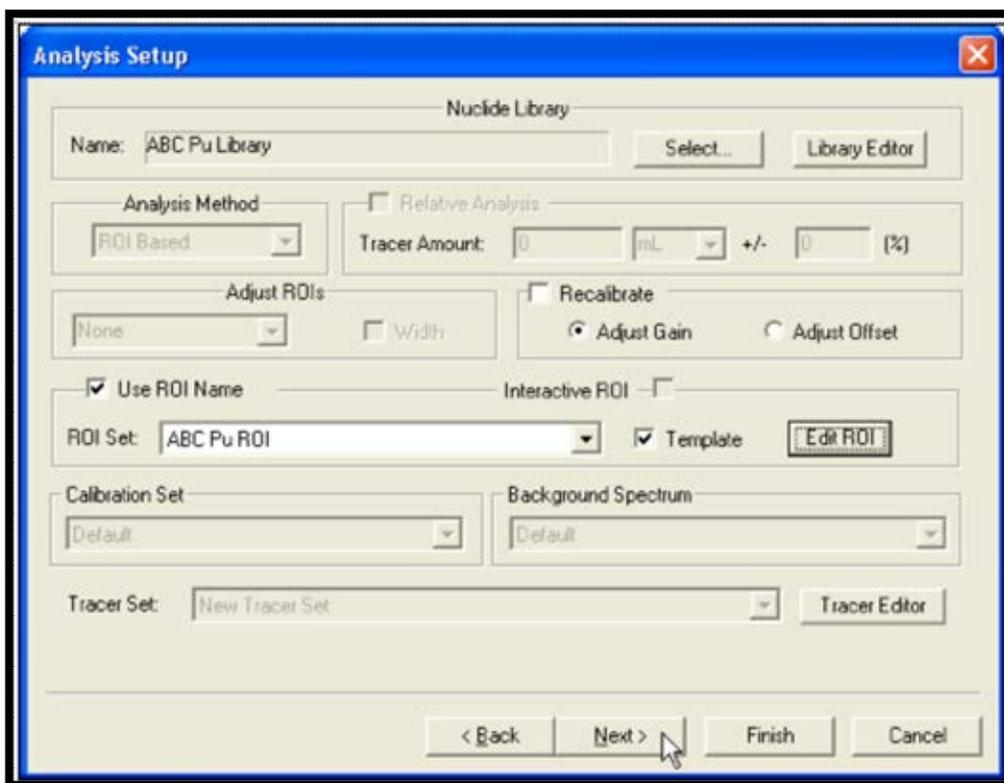

Figure 194. Analysis Setup - ROI Set
- 5) The Analysis page (Figure 194) is discussed in Section 11.1.5 and is used to set up the analysis method for the batch. First, select a **Nuclide Library**. Click **Select...** to open the Nuclide Library dialog and choose the library *ABC Pu Library*. The default maximum allowable peak shift will be used (**Max. Peak Mismatch**), 100 keV. Click **OK** to return to the Analysis Setup page, then click **Next** to go to the Report Options page.
- 6) The Background Wizard uses the **ROI Based** analysis. To complete the ROI analysis, specify an **ROI Set** that correspond to the nuclide(s) being monitoring in the background spectrum. In this tutorial, select the *ABC Pu ROI* set from the **ROI Set** drop list (Figure 194). Click **Next** to go to the final page of the wizard, Report.